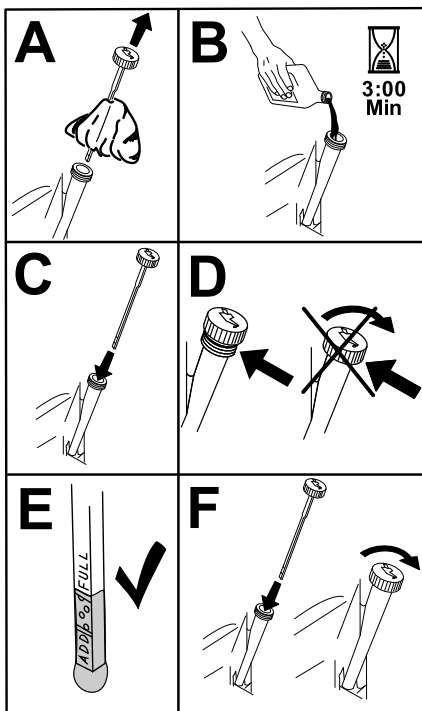

Figure 18
5. Slowly pour approximately 80% of the specified oil into the filler tube and slowly add the additional oil to bring it to the **Full** mark (Figure 18).
- Fill the crankcase with the proper type of new oil (Figure 18).